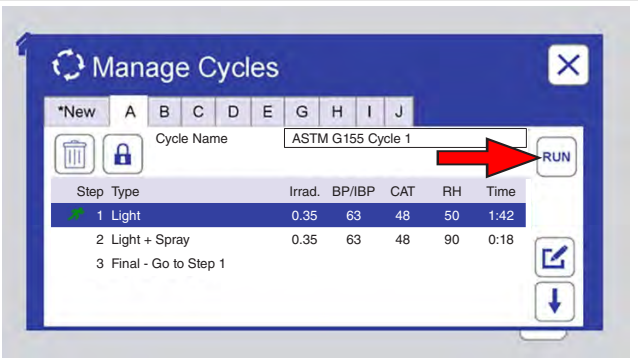
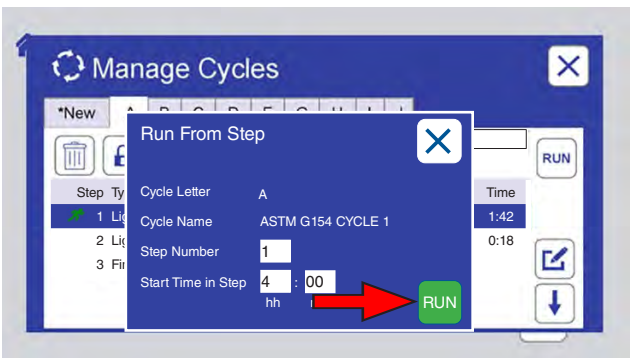

Figure 11.6.8a: A cycle can be run from a specified time in one of its steps. Select the step, then touch the Run icon.
Figure 11.6.8d: Touch the Run icon to run the step from the time entered.
- Run a cycle from any of its steps (Figure 11.6.8a through Figure 11.6.8d).
- The Q-SUN main controller can store ten (10) test cycles.
- A test cycle can consist of up to twenty-five (25) steps.